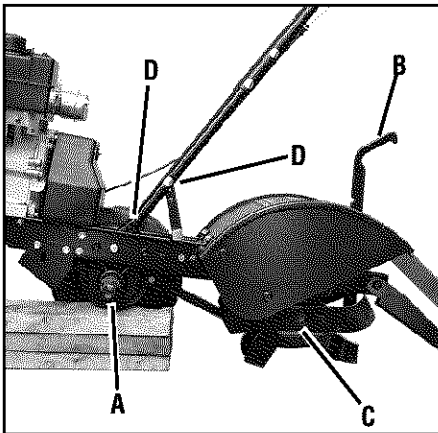

Figure 5-1
Proper lubrication of the tiller is an essential part of maintenance. After every 10 operating hours, oil or grease the lubrication points shown in Figures 5-1 and 5-1A and described below.
- Remove wheels, clean wheel shaft (A, Fig. 5-1) and apply thin coating of grease to the shaft.
- Grease back, front and sides of depth regulator lever (B, Fig. 5-1).
- Remove tines, clean tine shafts (C, Fig. 5-1). Inspect for rust, rough spots or burrs (look around holes). File or sand smooth, coat ends of shaft with grease.
- Oil the threads on the handlebar height adjustment screws and the handlebar attaching screws (D, Fig. 5-1).